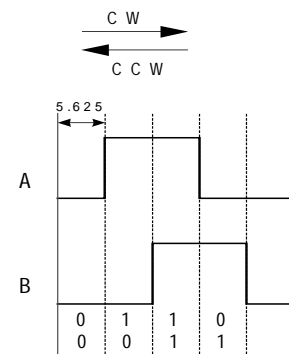

Figure 3 Quadrature A/B signal
Figure 3 shows the changing of the quad A/B signal in clockwise (CW) and counter-clockwise (CCW) direction.